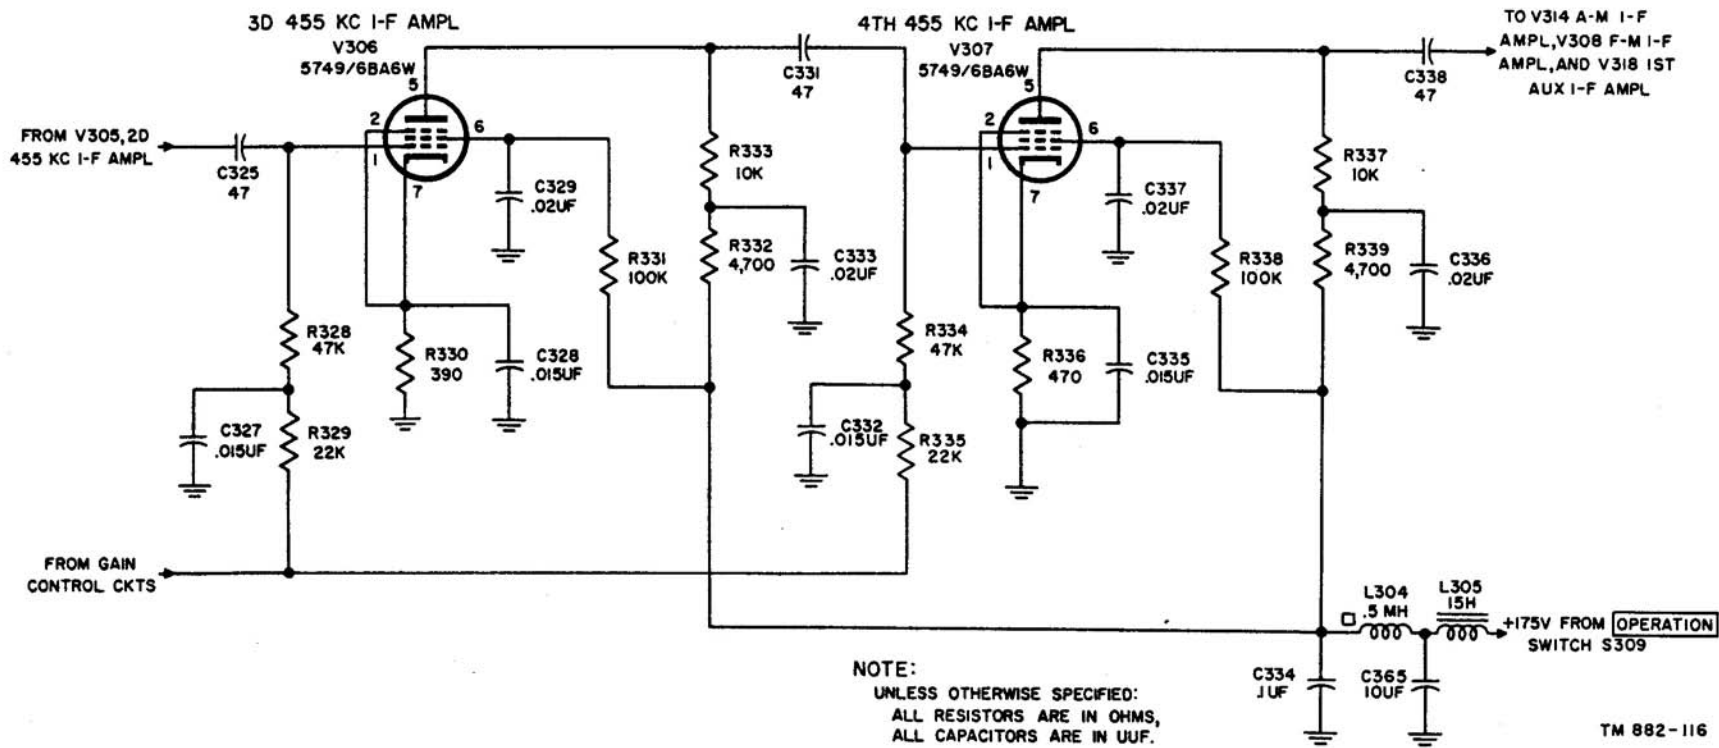

Figure 36. Third and fourth 455-kc if. amplifiers.
d. *Third and Fourth 455-kc If. Amplifiers*, (fig. 36). From V305, the signal passes through third and fourth 455-kc if. amplifiers V306 and V307 to the fm if., am. if., and auxiliary if. circuits. Coupling capacitors between these stages are C325, C331, and C338. The V306 cathode is biased and bypassed by R330 and C328, respectively, and the V307 cathode is biased and bypassed by R336 and C335. Grid resistors are R328 for V306 and R334 for V307. The mgs-agc decoupling network consists of R329 and C327 for V306, and R335 and C332 for V307.